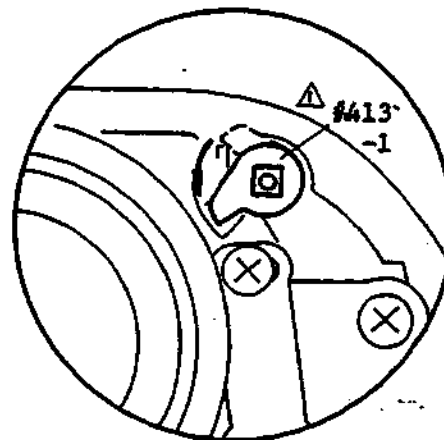

fig. 14-4
- 2) Check FA1-413 for proper setting and releasing. (See fig. 14-4.)